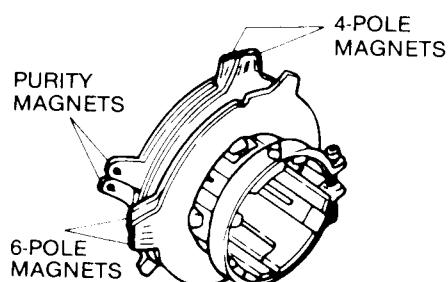

Fig. 11 CONVERGENCE MAGNET ASSEMBLY
3. Adjust two tabs of the 4-pole Magnets to change the angle between them (See Fig. 11) and superimpose red and blue vertical lines in the center area of the picture screen. (See Fig. 12).